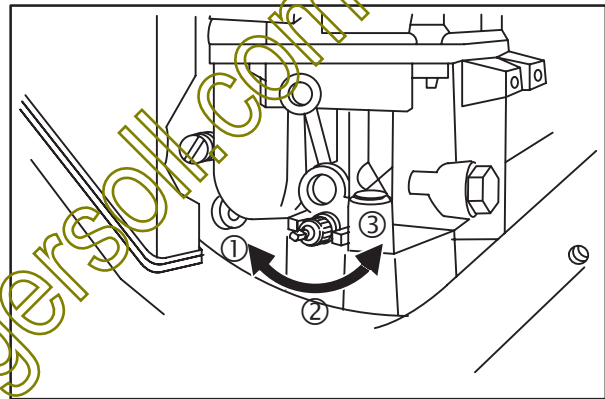

Fig. 11
4. Turn idle mixture screw slowly **CLOCKWISE** (1) until engine speed just starts to slow (**LEAN** mixture), Fig. 11.